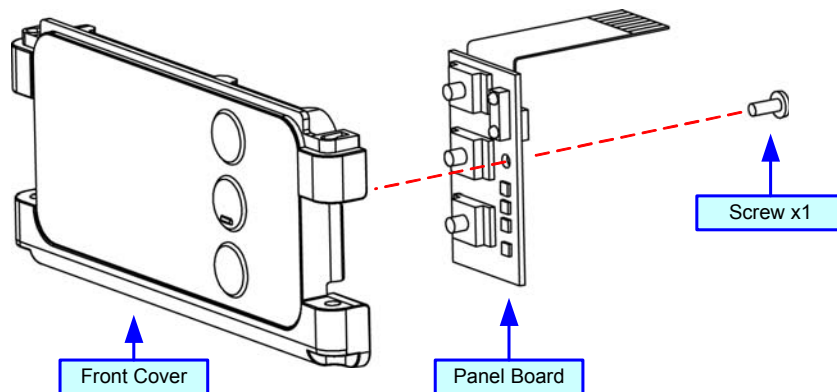

Figure 7-7, Panel & LCD Board Replacement
- 2 Remove the front housing cover (Figure 7-7).